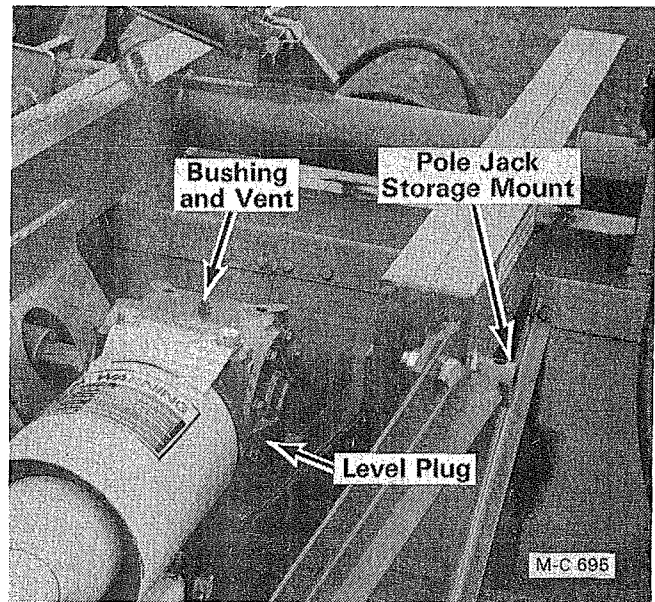

Figure 11 - Model 144 and 180 Shown
1. Remove the oil level plug on the left side of the gear box, see Figure 11 page 8. The oil level should be even with the bottom of the